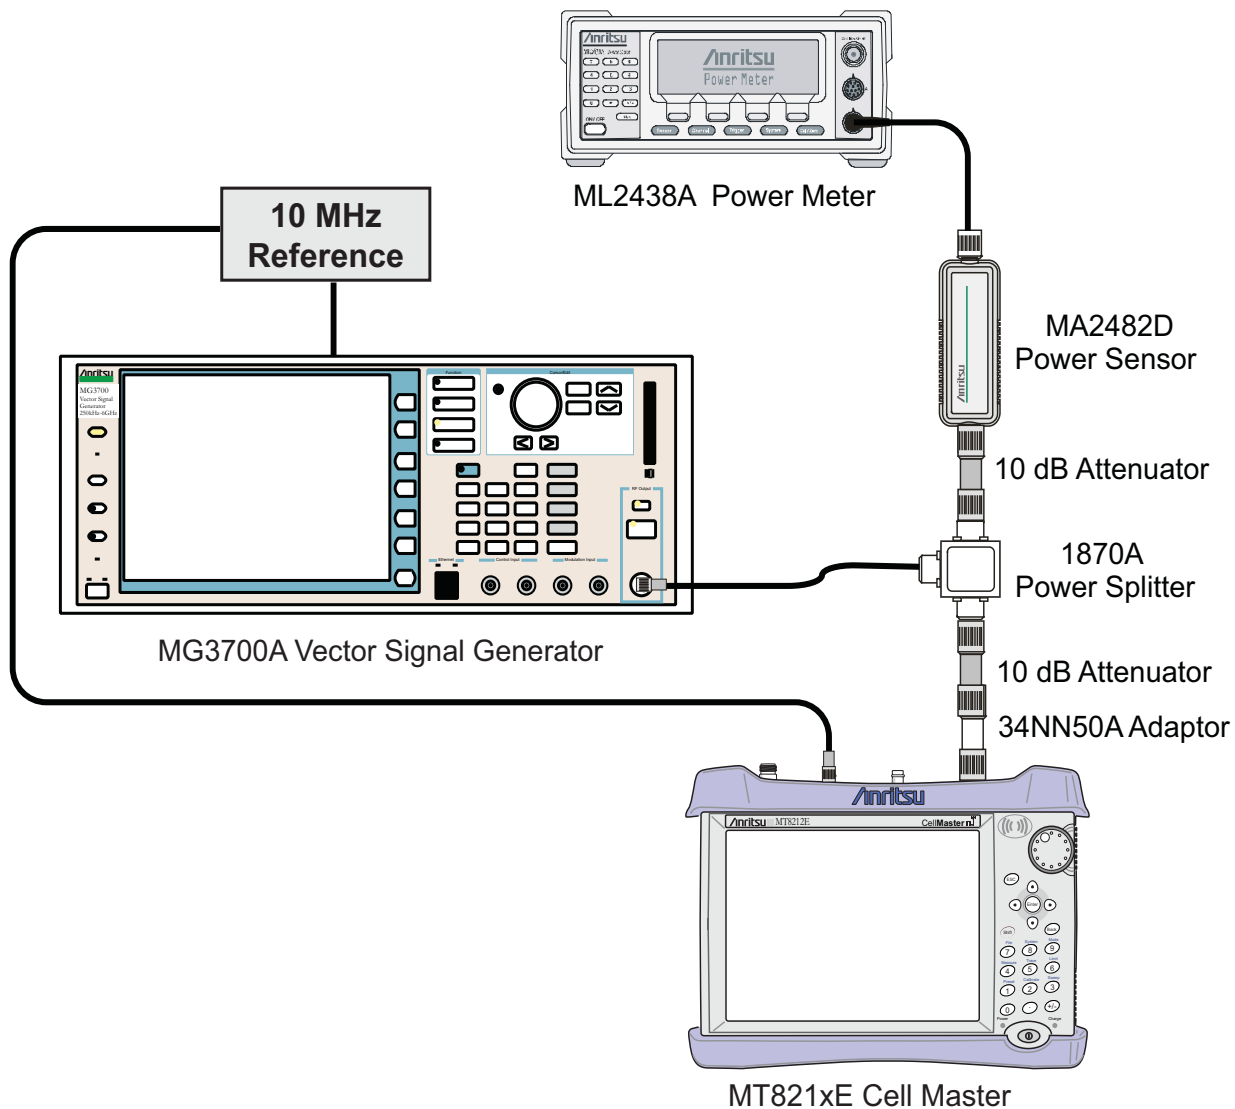

Figure 5-19. Mobile WiMAX Signal Analyzer Option Verification
4. Connect the equipment as shown in Figure 5-19.